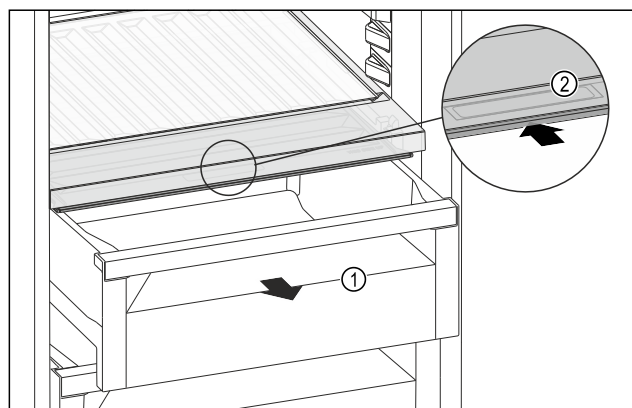

Fig. 121
- ▶ Pull out the drawer Fig. 121 (1).
- ▶ Grasp the recessed grip Fig. 121 (2) on the compartment lid and push the compartment lid backwards at the same time.